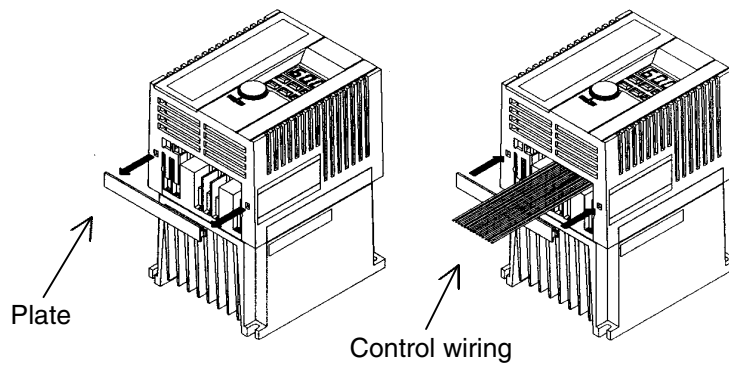

Figure 2-3-8 How to pull out the control wiring
- 5) Remove the plate at the bottom of the surface cover before performing inverter control wiring and reinstall it after the wiring as shown in Figure 2-3-8.